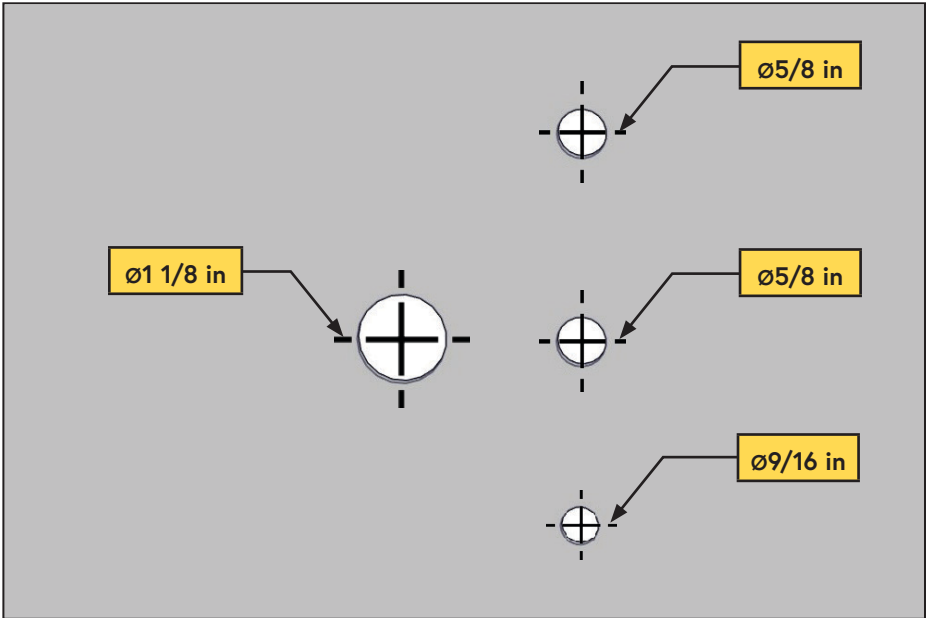
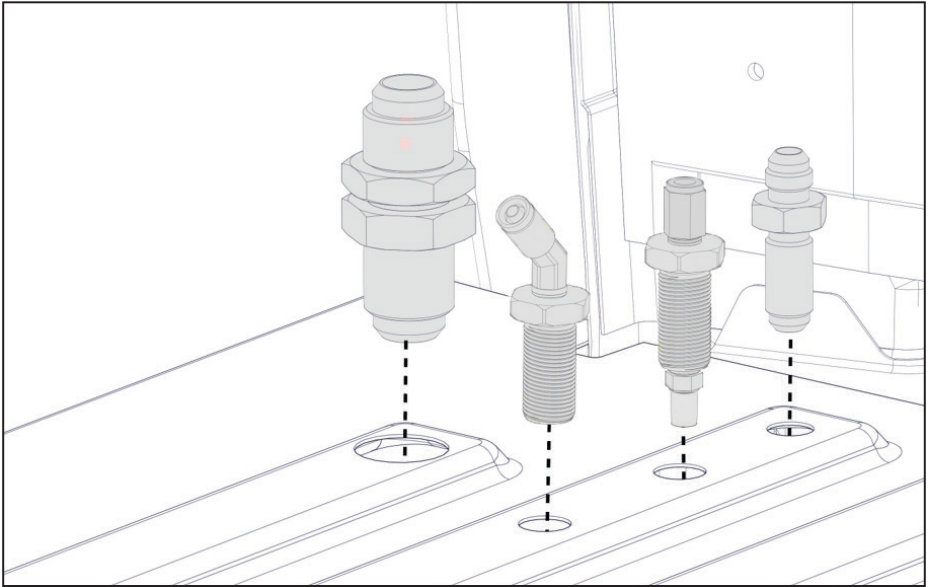
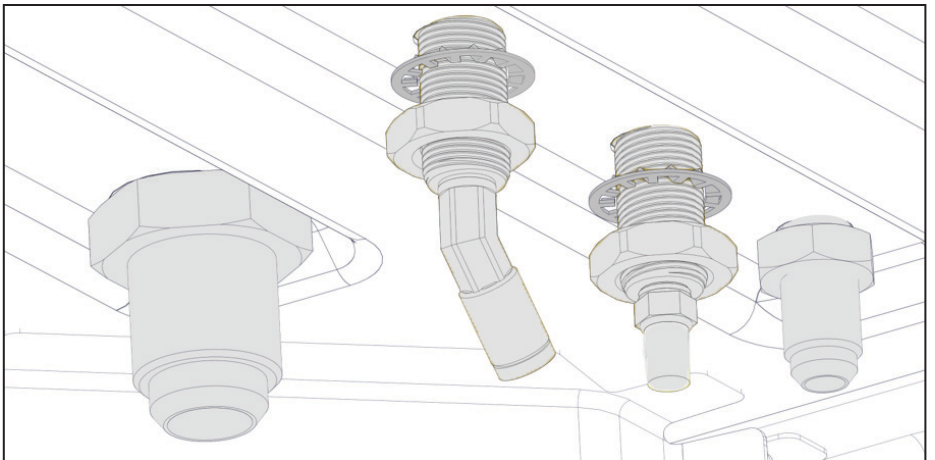

Figure 23 — Hole diameter
Figure 24 — Interior View
Figure 25 — Exterior View
- Drill the bulkhead fitting holes using a drill, step drill or hole saw. Leave enough room between the fittings to allow access for a wrench (Figure 23, Figure 24, Figure 25):
- Fit the bulkhead fittings through the top of the hole and secure from the bottom with the supplied nuts. Apply Loctite 567 (thread sealant) when installing the 1/4 in push-to-connect fittings in the bulkhead fittings (Figure 24, Figure 25).